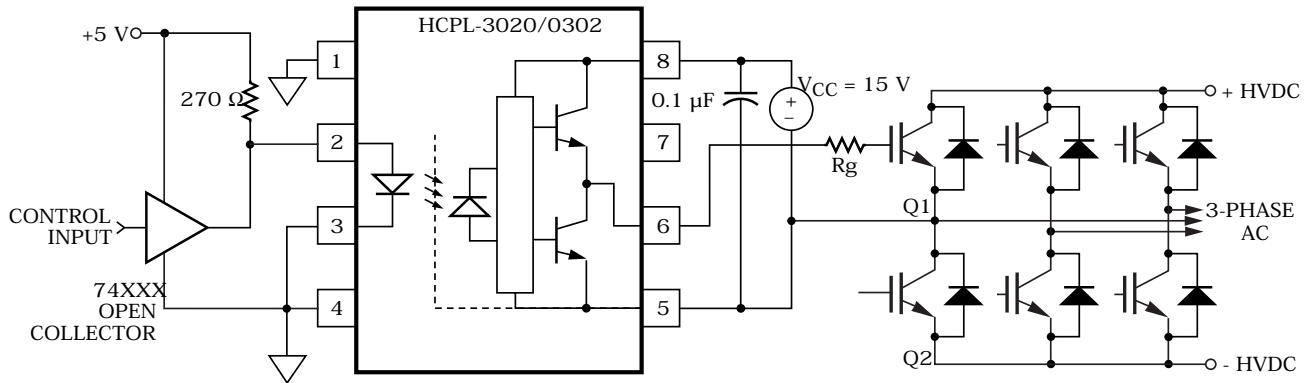
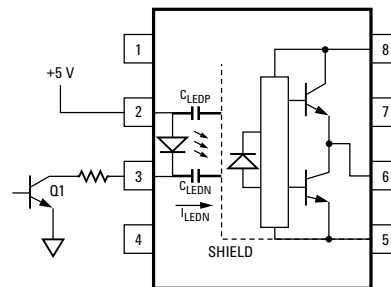

Figure 17. Recommended LED drive and application circuit for HCPL-3020 and HCPL-0302.
Figure 22. Not recommended open collector drive circuit.
To keep the IGBT firmly off, the HCPL-3020 and HCPL-0302 have a very low maximum V_{OL} specification of 1.0 V. Minimizing R_g and the lead inductance from the HCPL-3020 or HCPL-0302 to the IGBT gate and emitter (possibly by mounting the HCPL-3020 or HCPL-0302 on a small PC board directly above the IGBT) can eliminate the need for negative IGBT gate drive in many applications as shown in Figure 17. Care should be taken with such a PC board design to avoid routing the IGBT collector or emitter traces close to the HCPL-3020 or HCPL-0302 input as this can result in unwanted coupling of transient signals into the input of HCPL-3020 or HCPL-0302 and degrade performance. (If the IGBT drain must be routed near the HCPL-3020 or HCPL-0302 input, then the LED should be reverse biased when in the off state, to prevent the transient signals coupled from the IGBT drain from turning on the HCPL-3020 or HCPL-0302.
Step 1: Calculate R_g minimum from the I_{OL} peak specification. The IGBT and R_g in Figure 17 can be analyzed as a simple RC circuit with a voltage supplied by the HCPL-3020.
where $K_{I_{CC}} \cdot Q_g \cdot f$ is the increase in I_{CC} due to switching and $K_{I_{CC}}$ is a constant of 0.001 mA/(nC*kHz). For the circuit in Figure 17 with I_F (worst case) = 10 mA, $R_g = 57.5 \Omega$, Max Duty Cycle = 80%, $Q_g = 100$ nC, $f = 20$ kHz and $T_{AMAX} = 85^\circ\text{C}$:
perturbations in the LED current during common mode transients and becomes the major source of CMR failures for a shielded optocoupler. The main design objective of a high CMR LED drive circuit becomes keeping the LED in the proper state (on or off) during common mode transients. For example, the recommended application circuit (Figure 17), can achieve $10 \text{ kV}/\mu\text{s}$ CMR while minimizing component complexity.
The open collector drive circuit, shown in Figure 22, cannot keep the LED off during a $+dV_{CM}/dt$ transient, since all the current flowing through C_{LEDN} must be supplied by the LED, and it is not recommended for applications requiring ultra high CMR₁ performance. The alternative drive circuit, which like the recommended application circuit (Figure 17), does achieve ultra high CMR performance by shunting the LED in the off state.